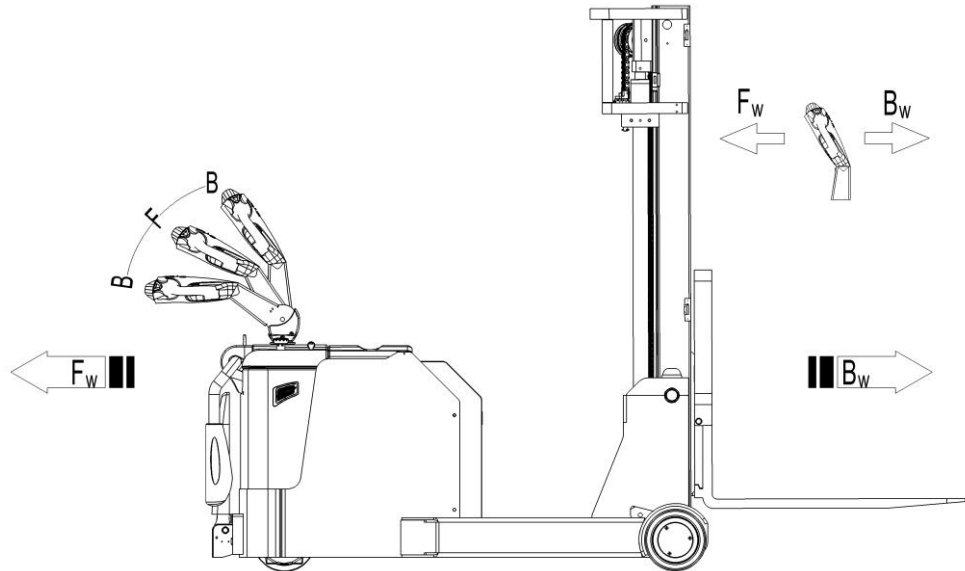

Fig.10: Operating direction
After starting the truck by activation from Pin-code panel and carefully pull out the emergency button. Then move the tiller to the operating zone ('F', Fig.10).
Turn the accelerator knob to the desired direction forward 'Fw.' Or backwards 'Bw.'(Fig. 10). Control the travelling speed by moving accelerator knob (10) carefully until you reached desired speed. If you move the accelerator knob back to the neutral position, the controller decelerates the truck until the truck stops. If the truck stops, the parking brake will be engaged. Carefully drive the truck to the destination. Watch the route conditions and adjust the travelling speed via the accelerator knob.